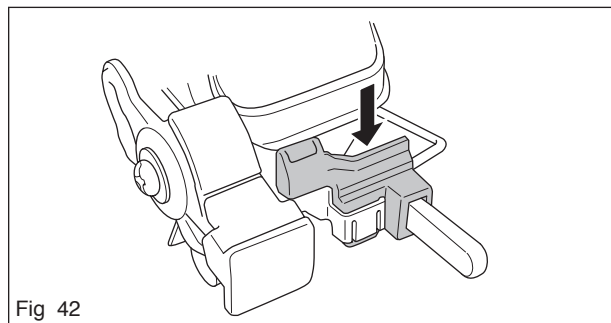

Fig 42
6. Hook in the throttle actuator rod into the carburettor. Thread the handle holder into the throttle actuator rod (A). Push the rod forwards so that it can be inserted into the handle part.
7. Push down the handle holder into the filter holder (see figure 42).